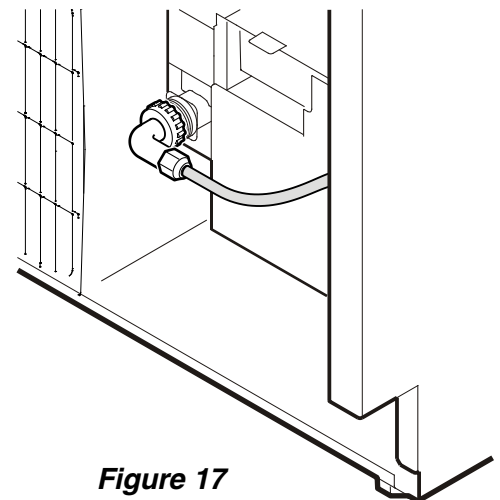

Figure 17
8. Screw the OD adapter onto the solenoid valve (**Figure 17**).